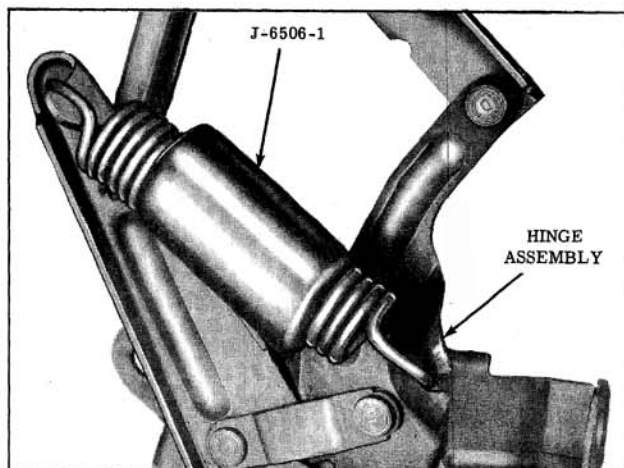

Fig. 15-11 Hinge Spring Tool in Position
1. Raise hood just enough to place Tool J-6506-1 over the spring. (Fig. 15-11)